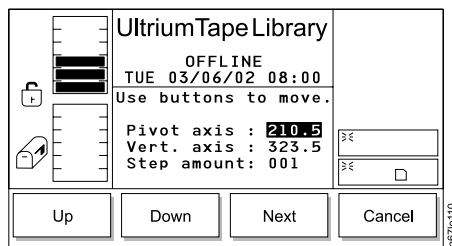

Figure 311. Axes Dialog
7. Press the button below the **OK** softkey. The Axes Dialog displays (see Figure 311).